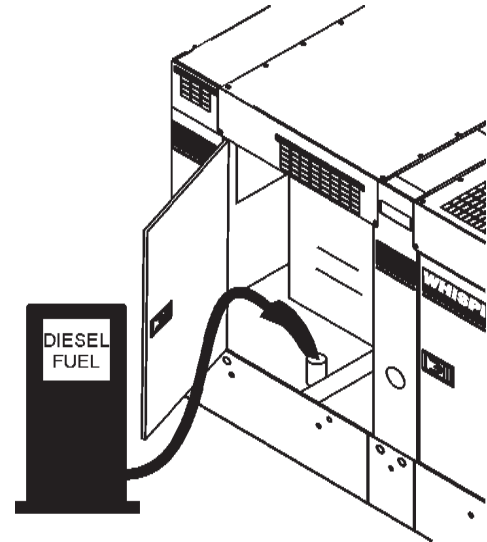

Figure 33. Fueling the Generator
2. Open cabinet doors on the generator. Locate and remove the fuel tank cap and fill tank (Figure 33).